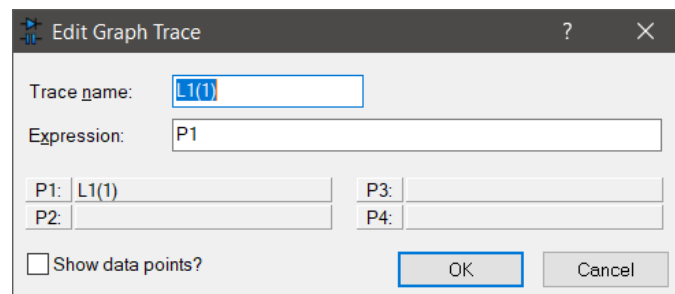

Figure 22 – Parameters to show dB Value across L1(1) Probe.
Select L1(1) probe to show dB value across RLC parallel circuit as shown below, Figure 22.